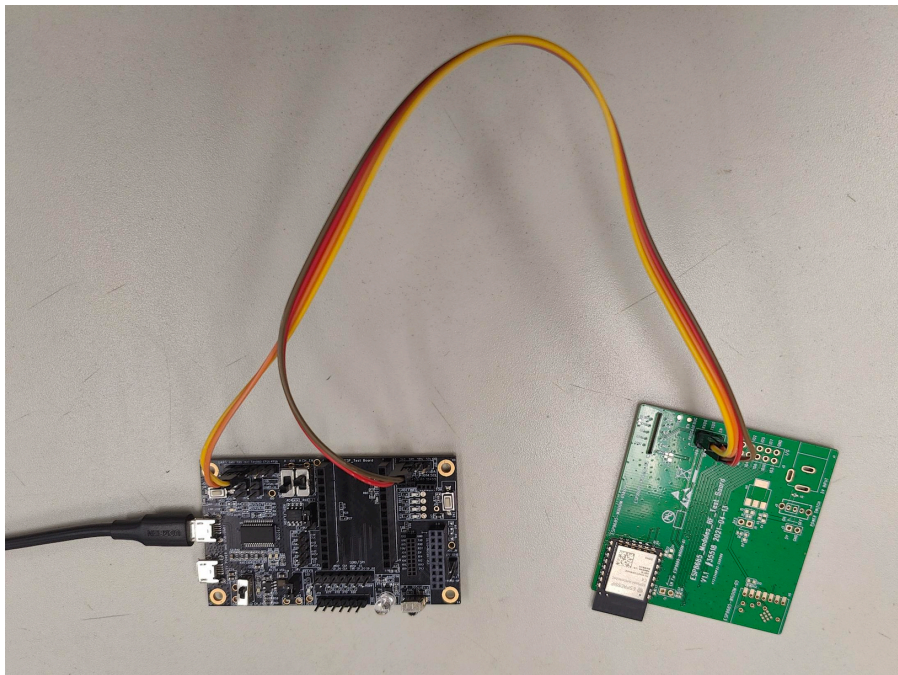

Figure 2: Hardware Connection
1. Solder the ESP8684-WROOM-04C module to the RF testing board as shown in Figure 2.